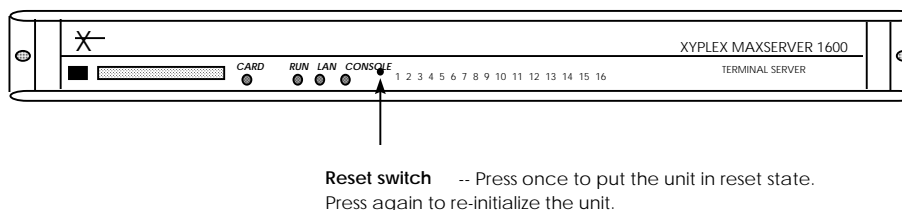

Figure 10 - RESET Switch Location
2. Look for the small hole between the CONSOLE light and the light labeled '1' (see Figure 10).